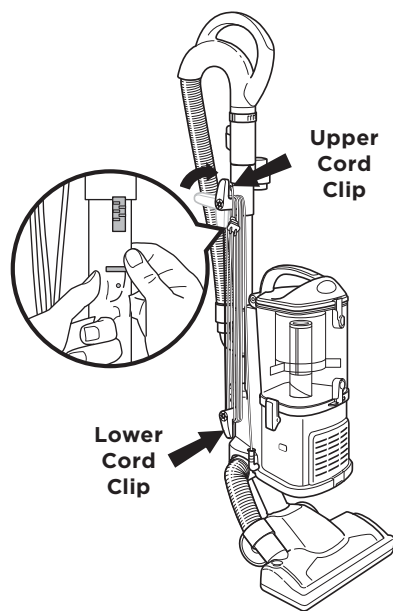

Fig. 17
- 2 Rotate the upper cord clip to its upright position and coil the power cord loosely around the two clips. Clip the plug onto the cord to secure. **(Fig. 17)**